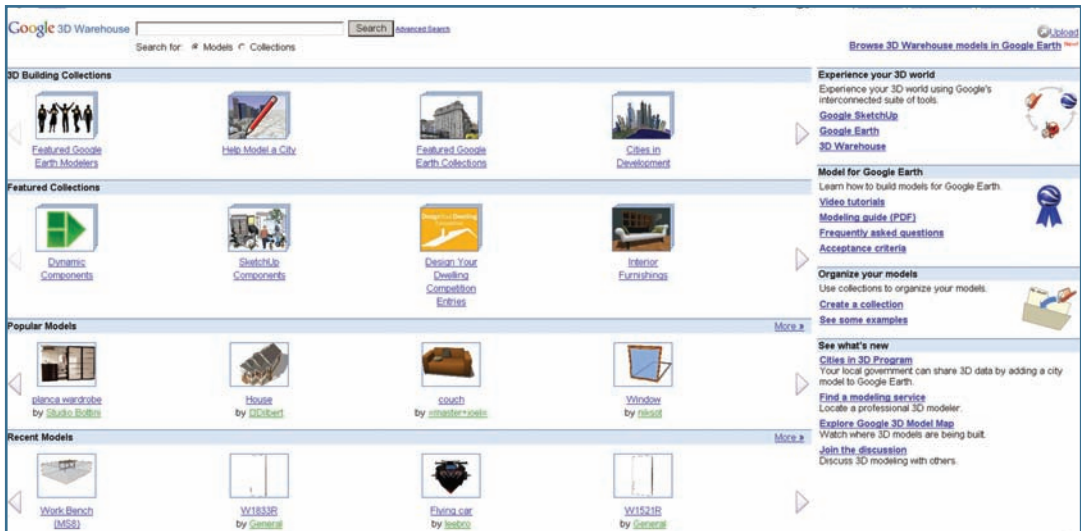

Fig. 1-4: Google 3D Warehouse contains all the tutorial and reference models found in this book.
3. Select the link and go to the website (Fig. 1-4).